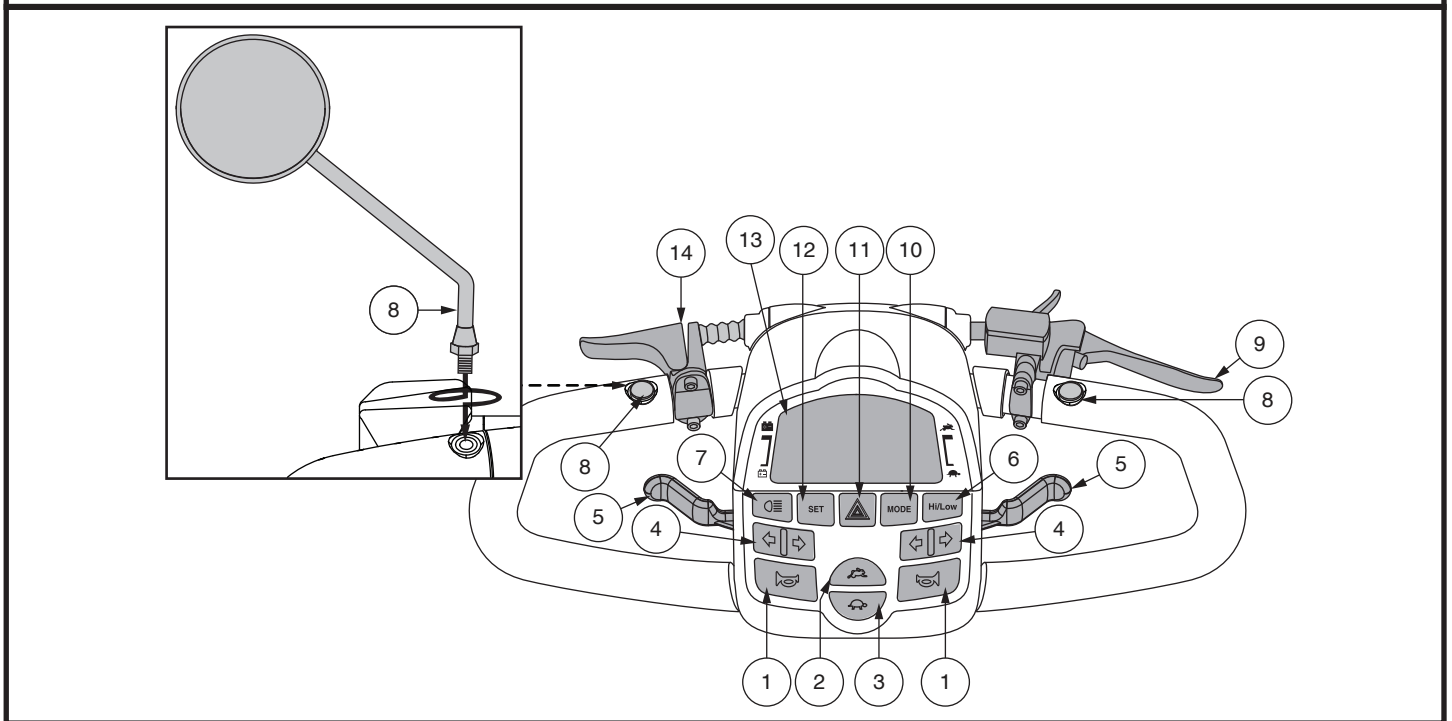

Figure 1. Tiller Console
The tiller console houses all of the controls needed to drive your vehicle, including the LCD control panel, handbrake lever, tiller adjustment lever, and the throttle control lever. See figure 1.
This lever allows you to control the forward speed and the reverse speed of your vehicle up to the maximum speed you preset with the speed adjustment. A throttle control lever is located on the underside of the left and right side of the tiller handle. See **figure 1**.
- Press the **High-Low** button once to set the speed adjustment to high. The High-Low indicator will display on the LCD screen. See **figure 1**. Using this setting in conjunction with the speed adjustment buttons will allow the vehicle to achieve speeds up to the maximum preprogrammed speed for the vehicle.
The LCD control panel offers easily intuited feedback information via the LCD screen. See figure 1. The LCD screen is also used during the set-up (activation) of the various control panel settings.
**NOTE:** To program control panel settings, Hi-Low Indicator must be switched off, and Maximum Speed Indicator must be set to full. See figure 1.